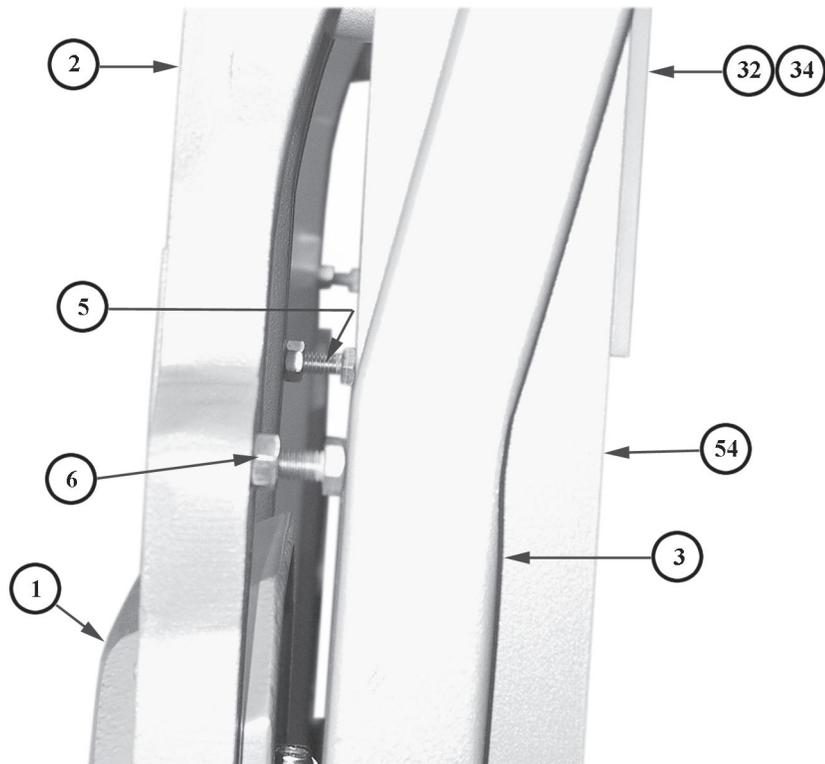

FIGURE 2
2. Remove the channel support by loosening the six (6) sockethead cap screws (Item 22) that attach to the pivot support (Item 4).
6. With the actuator removed from the unit, turn IN both adjusting bolts on each side of the inside arm (Items 5 & 6; see Figure 2).